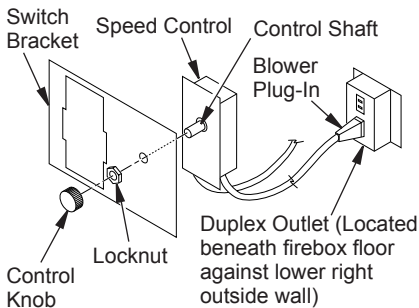

Figure 27 - Attaching Speed Control to Firebox
5. Mount speed control box to switch bracket by placing plastic control shaft forward through round opening in switch bracket (see Figure 27).
5. Mount speed control box against mounting plate provided in lower fireplace cavity by placing plastic control shaft forward through round hole (see Figure 27, page 19).
6. While supporting speed control, secure control shaft with lock nut by pushing and turning lock nut with pliers clockwise until it is tight against mounting plate. Place provided control knob on shaft (see Figure 27, page 19).